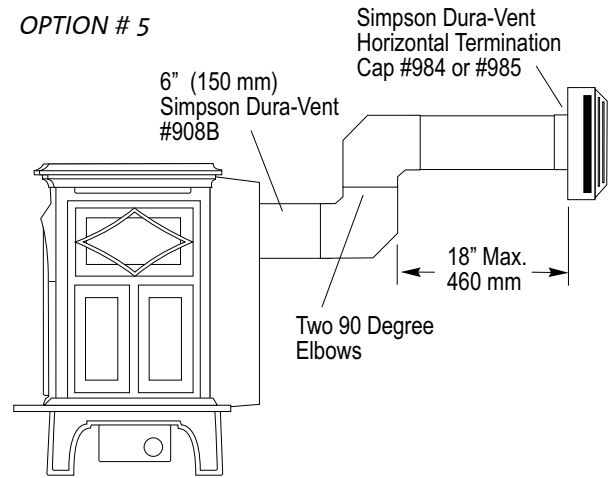

Figure 12-5. Horizontal vent with two elbows.
- A vertical run in any horizontally-terminated system must rise a minimum of 1 ft. See Fig. 12-5.